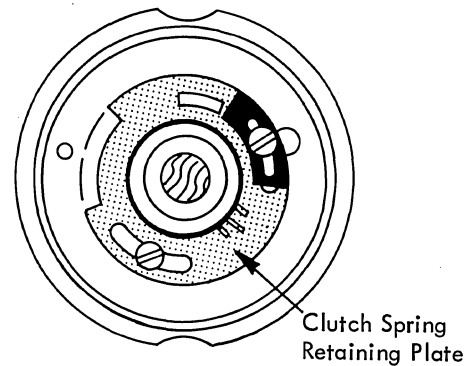

FIGURE 28. Shift Clutch Spring Retaining Plate
2. Shift Clutch Spring Retaining Plate - Adjust the retaining plate attached to the shift cam (Fig. 28) to satisfy the following condition. With the machine turned OFF and the shift cam detented, the shift clutch ratchet should rotate .028" to .059" when the shift release arm releases the ratchet. The rotation can be observed relative to the shift interlock (Fig. 29B). Half the distance from the center of one ratchet tooth to the next is $3/64$ " or .047".